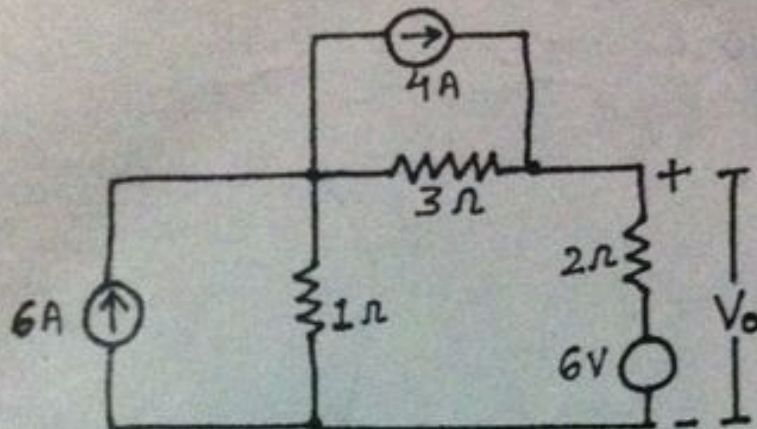

Fig. 3
4. Using superposition theorem, find the value of output voltage  $V_o$  in the circuit shown in Fig. 3.